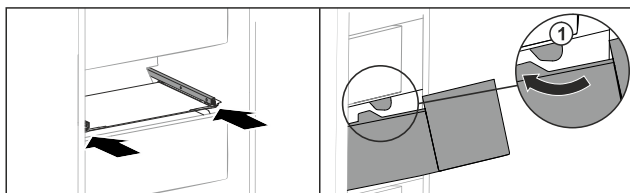

Fig. 198
- ▶ Vendoseni sirtarin mbi ndalues Fig. 198 (1).